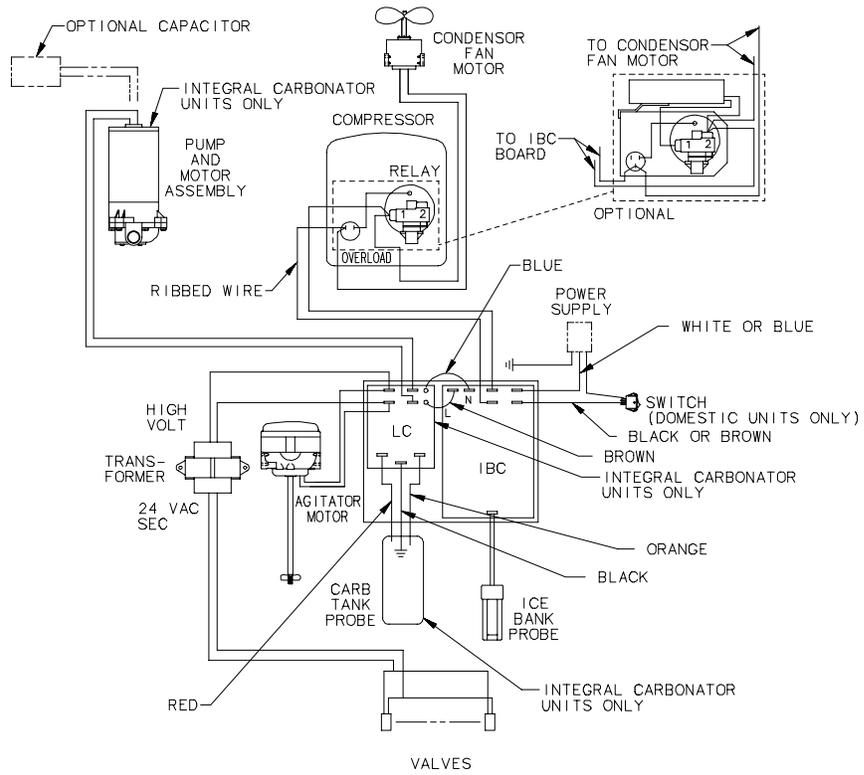

FIGURE 2. WIRING DIAGRAM
4. Disconnect agitator motor electrical wires from terminals on circuit board where transformer output (24 VAC) electrical wires are also connected (Figure 2).
9. Place new TRANSFORMER (item 1) in position and slightly forward of old transformer location.
11. Install new TRANSFORMER (item 1) and secure with SCREWS (item 3).
13. Connect one end of WIRING HARNESS (item 2) to transformer secondary (low terminals) 24 VAC output terminals.
15. Connect wiring harness electrical wires (coming from 24 VAC secondary side of the transformer) to terminals on the circuit board as shown in Figure 2.
16. Connect agitator motor electrical wires to same terminals on the circuit board where the transformer secondary side 24 VAC electrical wires are connected as shown in Figure 2.